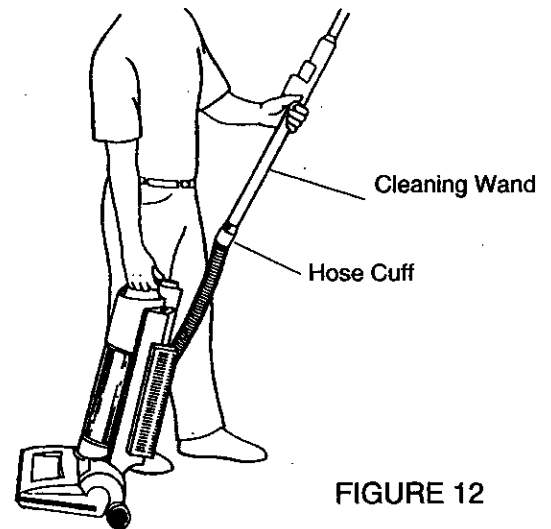

FIGURE 12
- When using the Cleaning Wand, to ensure maximum performance and convenience, fully extend the Wand from the Hose and then grip either the Wand or Hose Cuff. (Figure 12)
- Never pull your DESTINY II vacuum by the Hose. It can be moved easily by grasping the Carrying Handle and tilting the machine onto its rear wheels. (Figure 12)